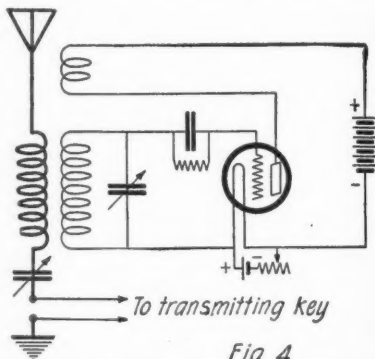
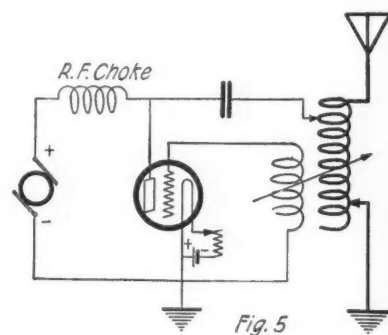

Fig. 4
Fig. 5
We thus see that by properly coupling the plate or output circuit of a V.T. amplifier to the grid or input circuit oscillations will be generated. Now every vacuum tube is an amplifier, this property is what makes it so important. A vacuum tube detector in a regenerative receiver acts as an amplifier. Consider the simple regenerative receiver of Fig. 4, which uses the popular tickler circuit. The tickler coil T serves to transfer some of the amplified plate energy back into the grid circuit. This is then re-amplified, producing more plate energy. It is by this means that the regenerative receiver is superior to other types. If the tickler coupling is made tight enough—in other words, if enough of the amplified plate energy is fed back into the grid—the circuit will maintain oscillations even though no signals are received according to the principle outlined above. In fact, this is actually done in receivers which receive C.W. by the heterodyne method. Oscillations are generated in the receiver by coupling tightly the tickler coil to the grid circuit, and these oscillations combine with the received C.W. signals to form a beat note. It will be apparent that instead of using these oscillations to heterodyne received C.W. signals they may be used to transmit, for, since we have produced in the plate circuit a steady flow of continuous oscillations, only a part of which is fed back into the grid circuit to keep the circuits oscillating, the balance of the plate energy may be used by coupling simultaneously to the antenna and radiating the oscillations. In this case the amplified plate energy is used as follows: A small part is fed back into the grid circuit which keeps the circuits oscillating continuously and the balance is induced in the antenna circuit and radiated or transmitted. Thus a regenerative receiver
1. *Shunt Circuit.* Various forms of this circuit are used, but they are all essentially the same. In this type the radio frequency circuit and the direct current power supply are connected in shunt across the tube as seen in Fig. 4. Fig. 5 illustrates the case where two separate coils are used for antenna and grid. It is seen that the plate coil is part of the antenna coil and that the grid coil is coupled to it. Where a separate plate coil is used which is coupled to the grid and antenna the circuit is called a Meissner circuit. Here the energy is fed back into the grid by coupling directly to the plate coil, whereas in Fig. 4 the grid is coupled to the antenna coil. In Fig. 5 the plate and antenna are conductively coupled. A modification of this circuit which is most widely used and